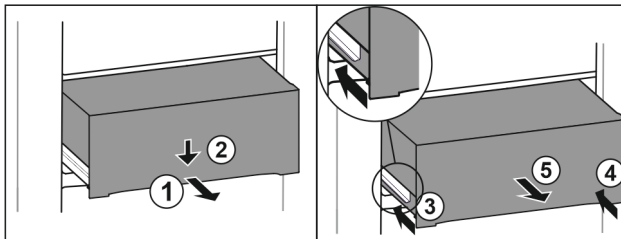

Fig. 208
- Pull out drawer half-way. Fig. 208 (1)
- Push the drawer down at the front. Fig. 208 (2)
- Push the left rail in by about 2 cm. Fig. 208 (3)
- Push the right rail in by about 2 cm. Fig. 208 (4)
- Remove drawer to the front. Fig. 208 (5)